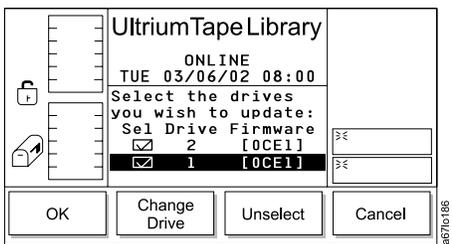

Figure 8-9. Select Drive Dialog
7. Press the button below the **OK** softkey. The Select Drive Dialog displays a list of installed tape drives and their current level of firmware (see Figure 8-9). The checkboxes in the left column contain checkmarks that indicate which drives are to be updated. The default is to update all drives (all checkboxes contain checkmarks).